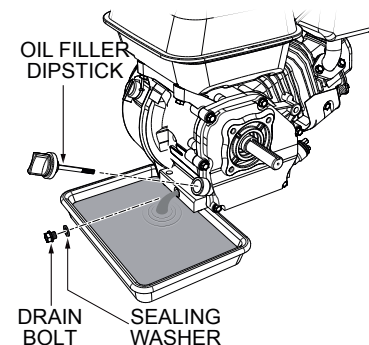

Figure 35. Draining Engine Oil
1. Drain the engine oil when the oil is warm as shown in Figure 35.